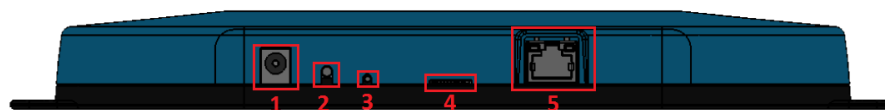

Figure 2: Side panel of the Sentrius™ RG1xx gateway
1. Depress and hold the user button (see #2 in Figure 2) for seven seconds.